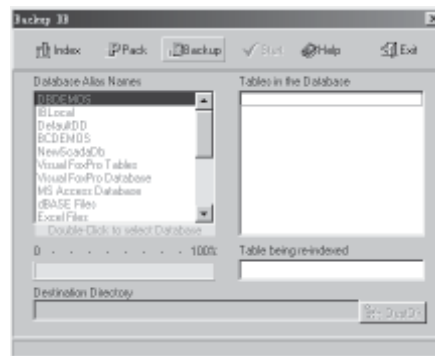

**Fig. 7-7 Design the Report**
(4) Design the Report: Select and click the button °Design±and it will enter the diagram of designing report as in Fig. 7-7. And then the user can design various reports according to the requirement.